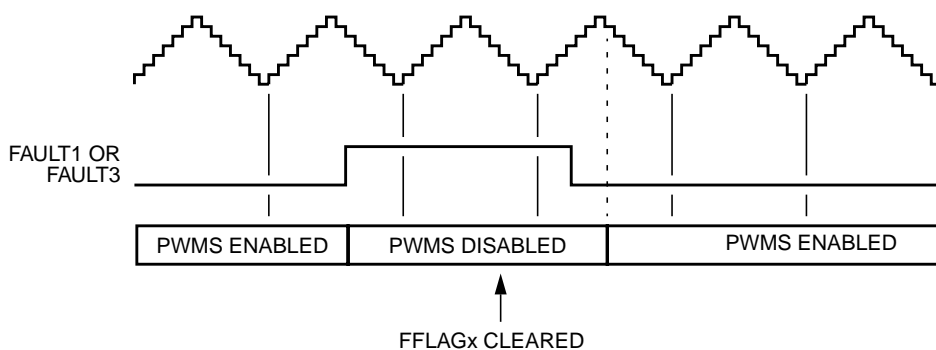

Figure 11-79. Manual Fault Clearing (Faults 1 and 3)
- The filter detects a logic zero on the fault pin at the start of the next PWM half cycle boundary. See Figure 11-79.